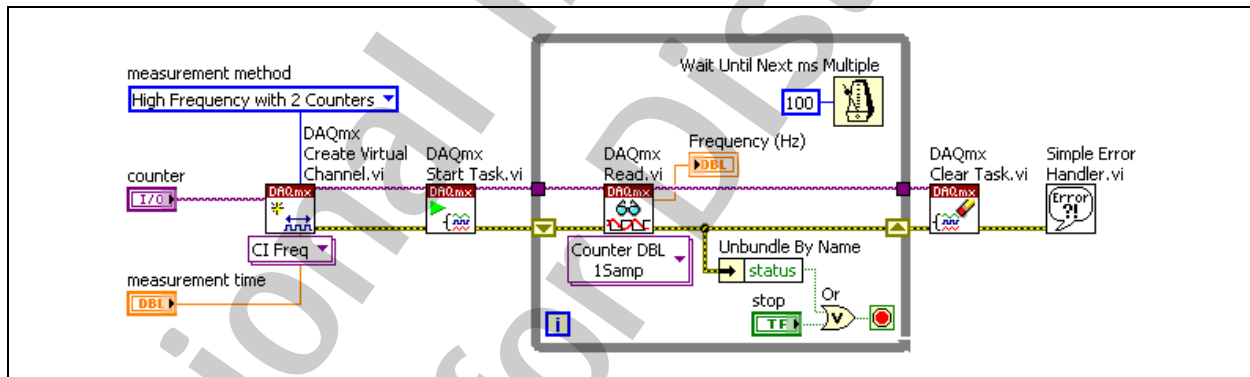

Figure 6-16. Frequency Measurement - High Frequency with 2 Counters VI Block Diagram
3. Modify the block diagram to use the High Frequency with 2 Counters method for acquiring frequency, as shown in Figure 6-16, by modifying the following item: